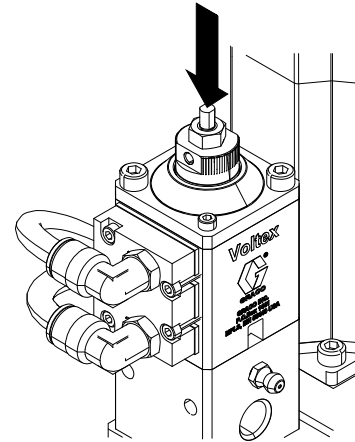

FIG. 39
1. Install O-ring (103) and valve seat (104).
2. Manually press down on top of dispense valve until fully depressed. See FIG. 39.